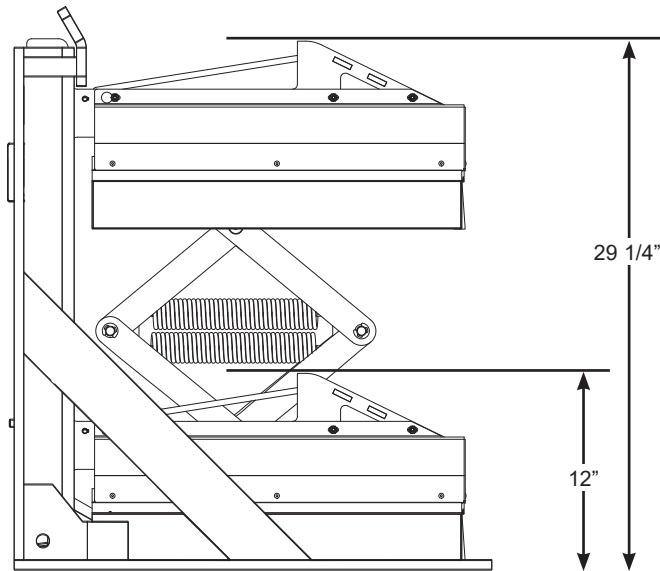

Figure 5
- All Stop-Tite models with the standard single level tall restraint hook have a service range of 12" to 29-1/4" (304.8 mm to 742.95 mm). See Figure 5.